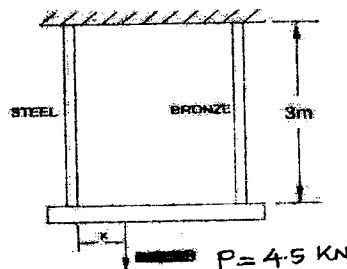

Fig 1
- b) Two vertical rods, one of steel and the other of bronze are rigidly fastened at upper ends at a horizontal distance of 760mm apart as shown in fig. 1. Each rod is 3m long and 25mm in diameter. A horizontal cross piece connects the lower ends of the bars. Where a load of 4.50 kN should be placed on the cross piece, so that it remains horizontal after being loaded? Determine the stresses in each rod. Take  $E_s = 210 \text{ GPa.}$ ,  $E_b = 112.5 \text{ GPa.}$  [12]